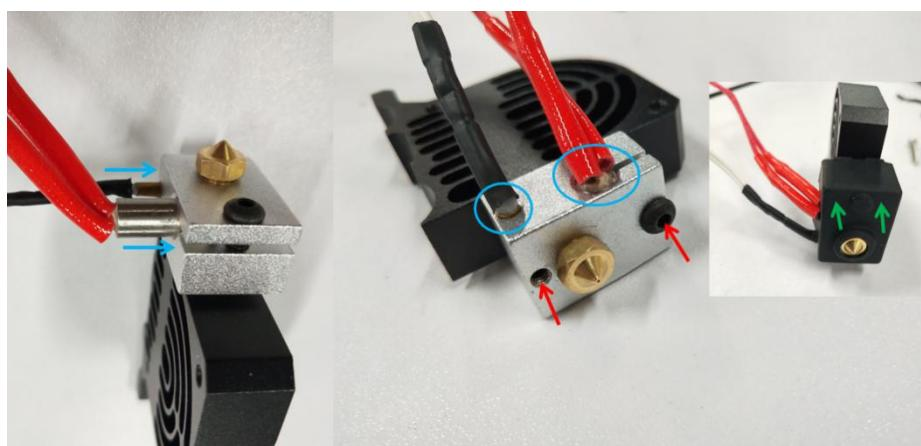

Figure 2.12.4
**Step 2-12-4:** as shown in Figure 2.12.4